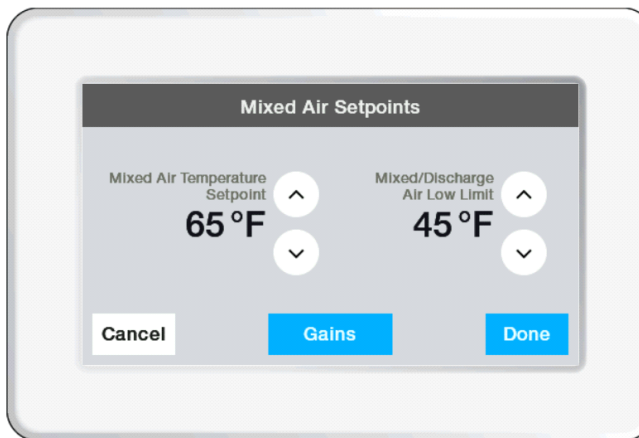

Fig. 12.
- (1) Use up and down arrow buttons to select setpoints, refer to Fig. 12.
- (2) If desired, adjust throttling ranges and deadbands by selecting "Gains."
- (3) Select "Done."